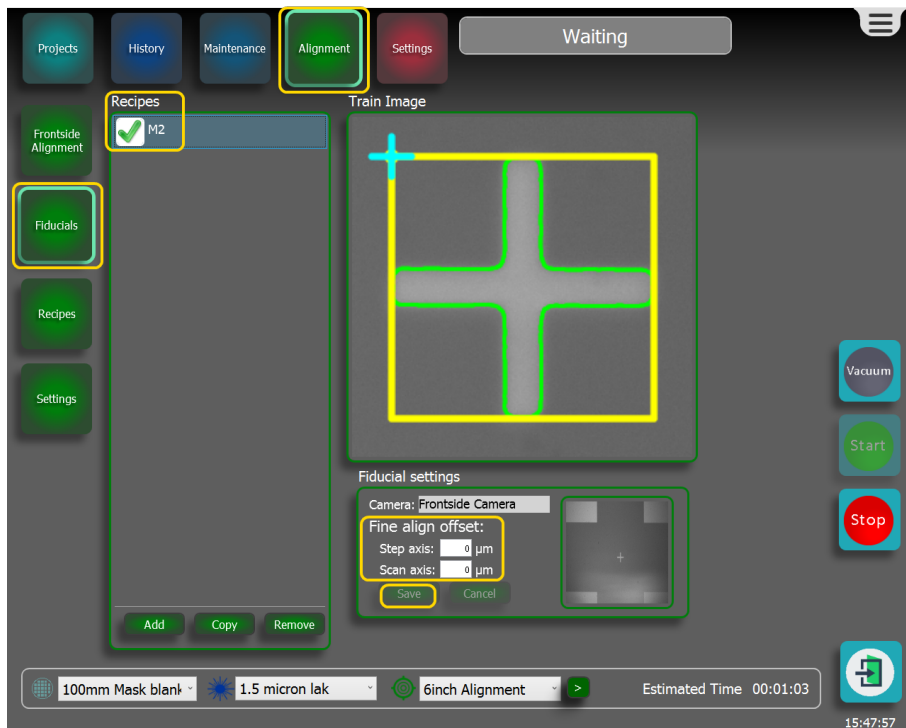

Figure 3-104 Importing marker files
- 6.3. At **Recipes**, select the marker, see Figure 3-104.